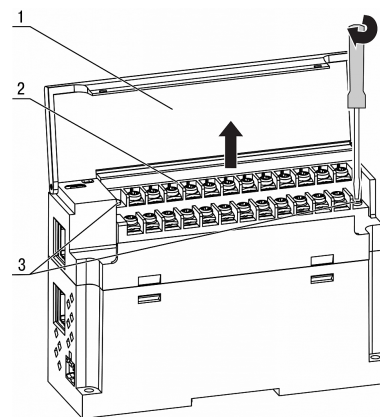

Fig. 5.2 Remove terminal block
Device replacement (Fig. 5.2):
Plug-in terminal block for power supply and removable terminal block for I/O connections enable quick and easy replacement of the device (see Fig. 5.2).
2. Remove the terminal blocks without disconnecting the connected wires (Fig. 5.2)